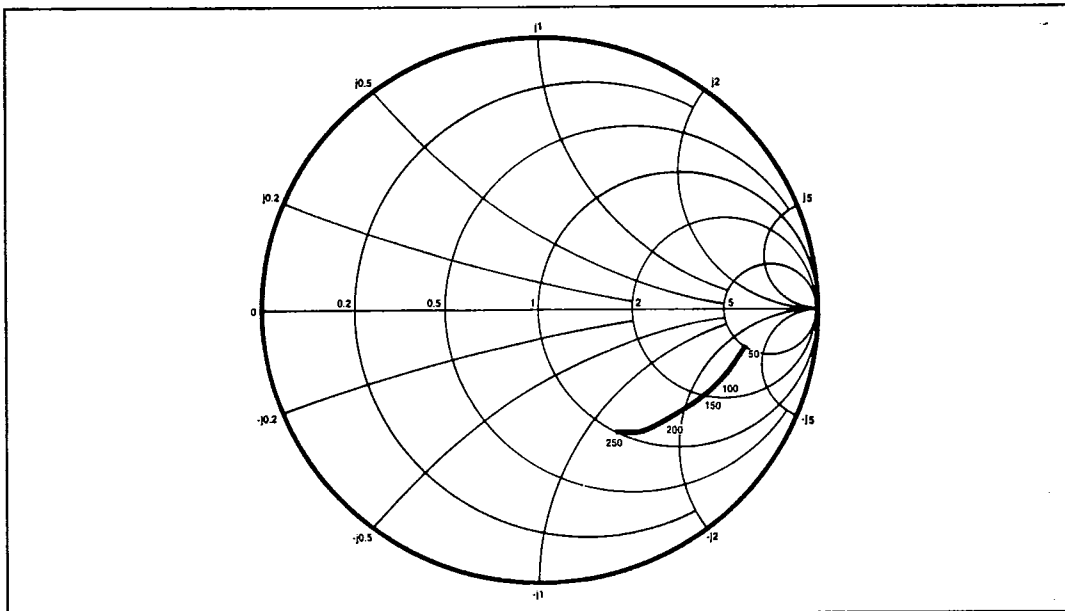

Fig.5 Typical input impedance. Test conditions: supply voltage 5V, ambient temperature 25°C, frequencies in MHz, impedances normalised to 50 ohms.
4. Input impedance is a function of frequency. See Fig. 5.